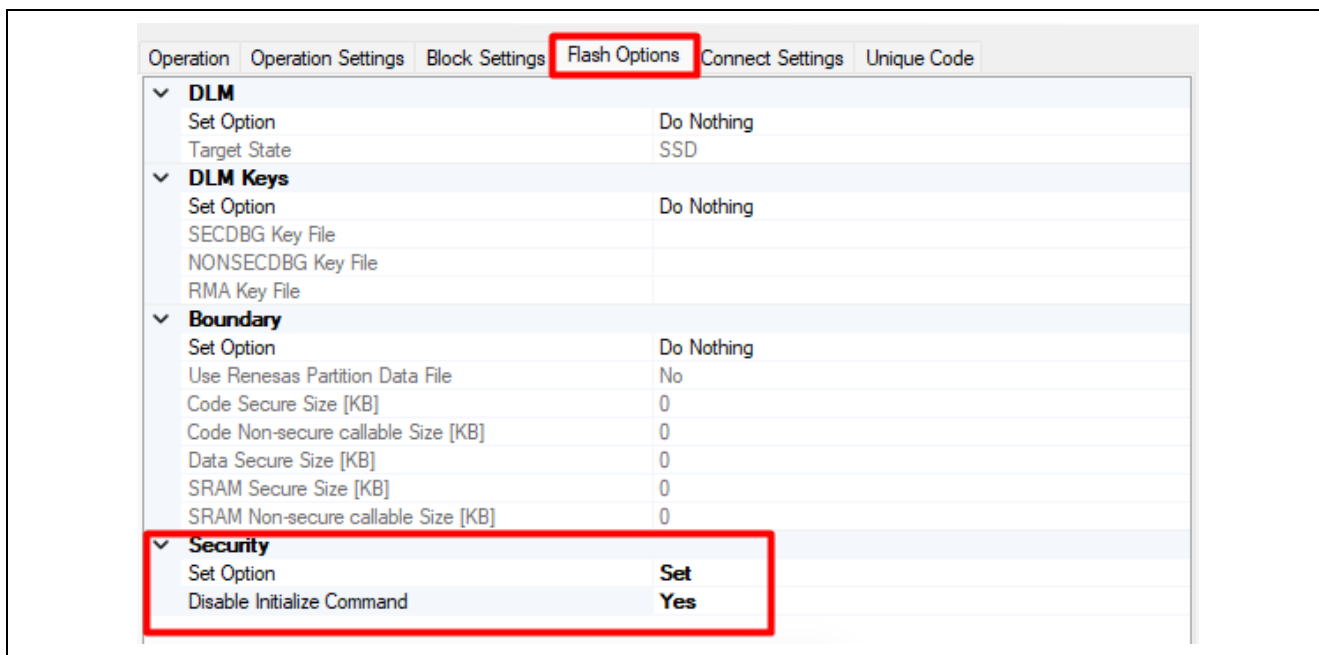

Figure 31. Setting for Flash Options tab to Disable Initialize Command
Step 2: In the **Flash Options** tab, under Security settings, set the option to **Set** and **Disable Initialize Command** to **Yes**, as shown in the Figure 31.